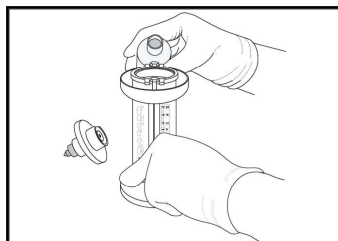

Figure 2. Filling FYRITE® Using Protective Gloves
- 2) Read the instruction manual thoroughly. When filling the FYRITE® with the applicable fluid charge, use safety equipment and perform the operation in the vicinity of running tap water Figure 2.